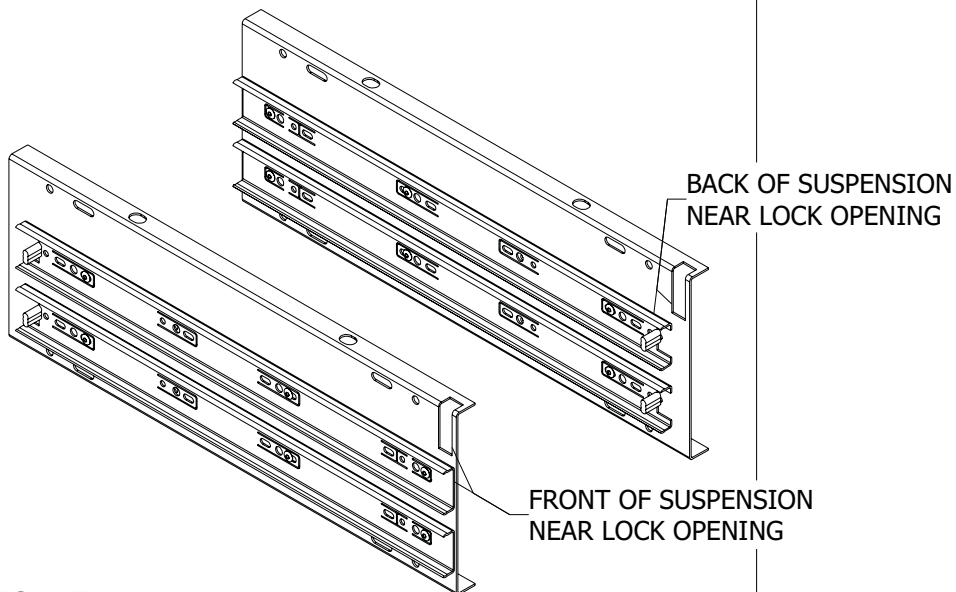

FIGURE A4:
- FOR SINGLE ENTRY VERSIONS THAT USE MOUNTING BRACKETS WITH LOCK OPENINGS; SUSPENSION RAILS MUST BE MOUNTED OPPOSITE OF EACH OTHER AS SHOWN IN FIGURE A4.